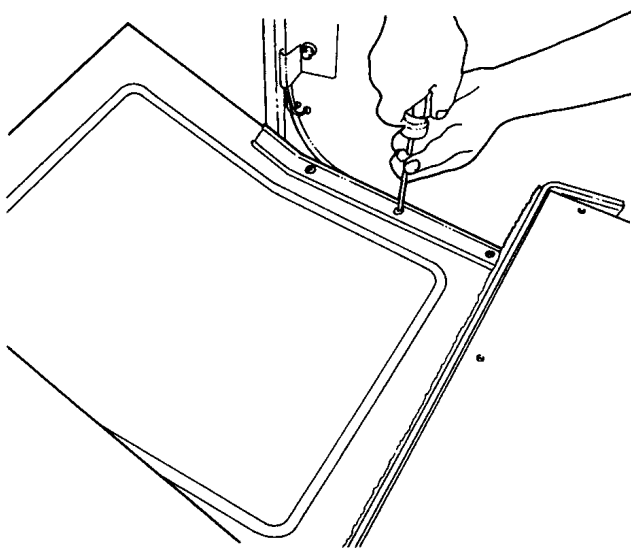

Figure 50 Floor Mat Remove/Install
3. Remove floor mat (Figure 50).
10. Install floor mat using mounting hardware previously removed (Figure 50).